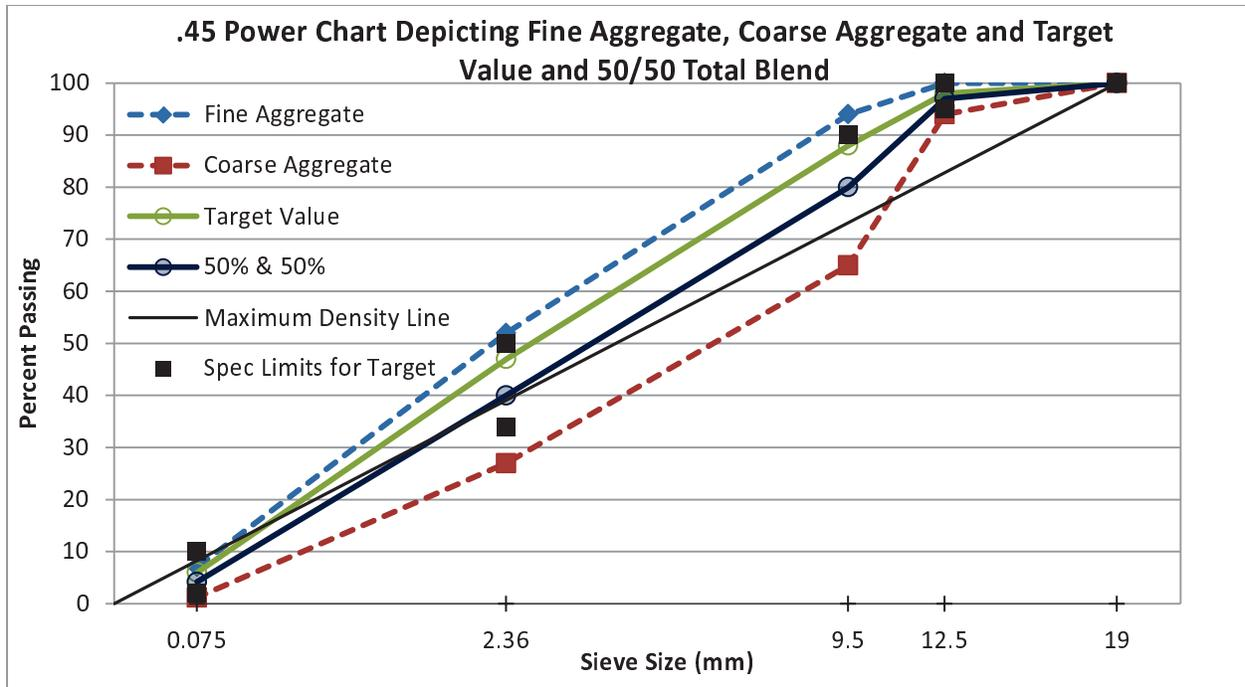

Figure 7-6: Data from Step 5.1 plotted on the .45 Power Chart
5.1 Compare the **Total Blend** with the **Target Value**. The blending worksheet that follows and Figure 7-6 present the results.
Observations: The 3/8" (9.5mm) and No. 8 (2.36mm) sieves are not close to target value, therefore an adjustment needs to be made. On the .45 Power Chart shown as Figure 7-6, note that the blend is too coarse. Increase the percentage of the fine aggregate used to fine the Total Blend.